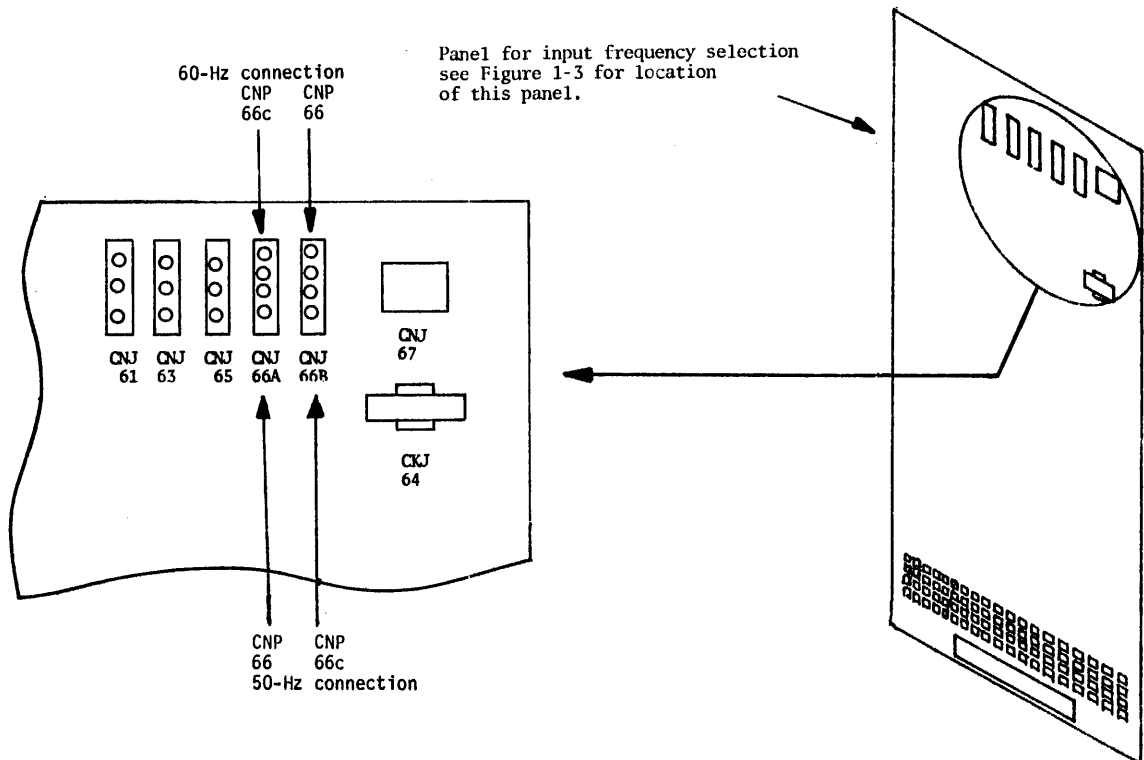

Figure 2-2. Input power frequency setting.
- (3) For 60-Hz input, verify that CNP66 is connected to CNJ66B and that CNP66C is connected to CNJ66A. These connections are shown in Figure 2-2.
For 50-Hz input, verify that CNP66 is connected to CNJ66A and that CNP66C is connected to CNJ66B. These connections are also shown in Figure 2-2.